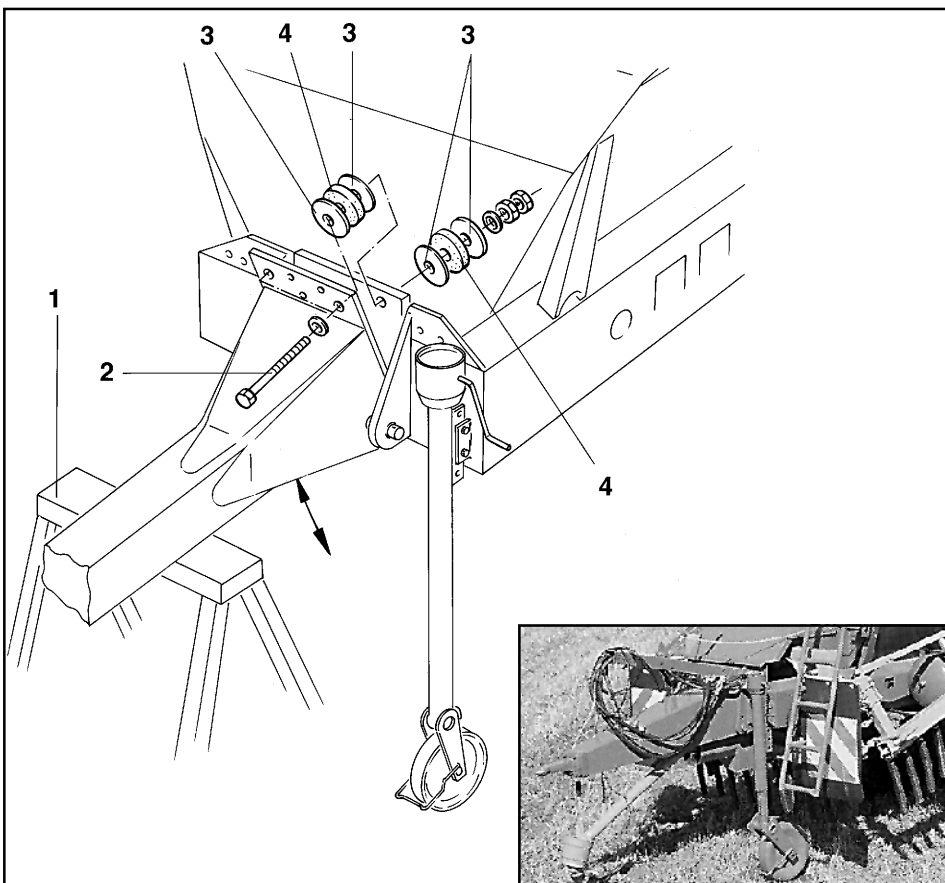

Fig. 4.7
- Rest the draw bar on a solid trestle (fig. 4.7/1) and remove the two securing bolts (fig. 4.7/2).
- By changing the position of both sets of spacing discs (fig. 4.7/3) evenly, you can adjust the draw bar. The buffer discs (fig. 4.7/4) must not be removed. They dampen the jolts transmitted from the tractor to the broadcaster.